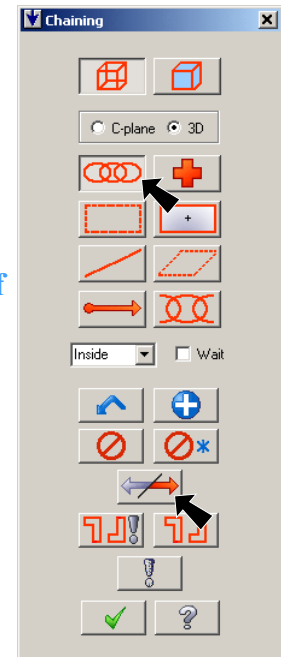

Fig. 71
Step 3. Click **Chain**  (C) in Chaining dialog box, **Fig. 71**.
, **Fig. 71**.